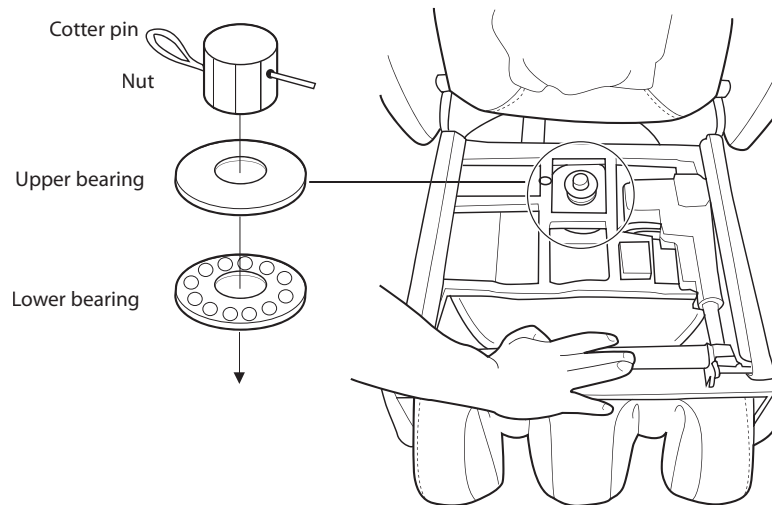

Fig.7
5. Pressing down firmly on the front of the chair frame to position the frame level with the base, place the pedestal nut over the pedestal bolt and hand-tighten it (Fig.7).